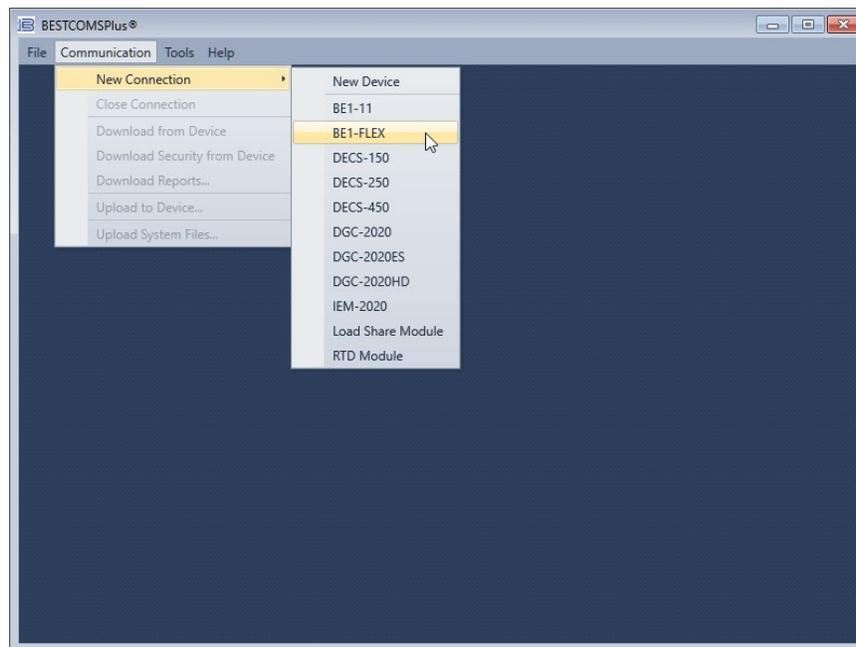
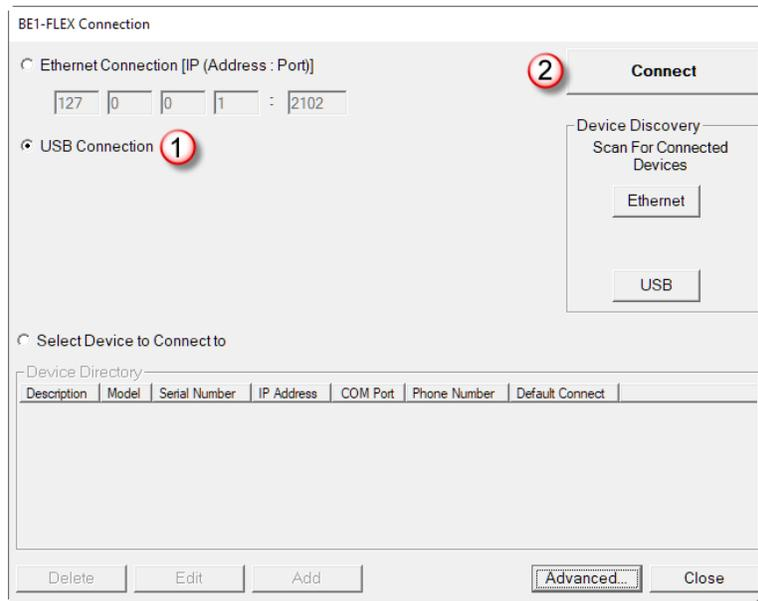

Figure 2-3. Communication Pull-Down Menu
Figure 2-4. BE1-FLEX Connection Screen
The BESTCOMSP*lus* platform window opens. Select New Connection from the Communication pull-down menu and select BE1-FLEX. See Figure 2-3. The BE1-FLEX Connection screen shown in Figure 2-4 appears.
Step 1: Start BESTCOMSPPlus and select New Connection, BE1-FLEX from the Communication pull-down menu to connect to the device. See Figure 2-3.
Step 2: The BE1-FLEX Connection screen appears. See Figure 2-4. Select USB Connection and click Connect.